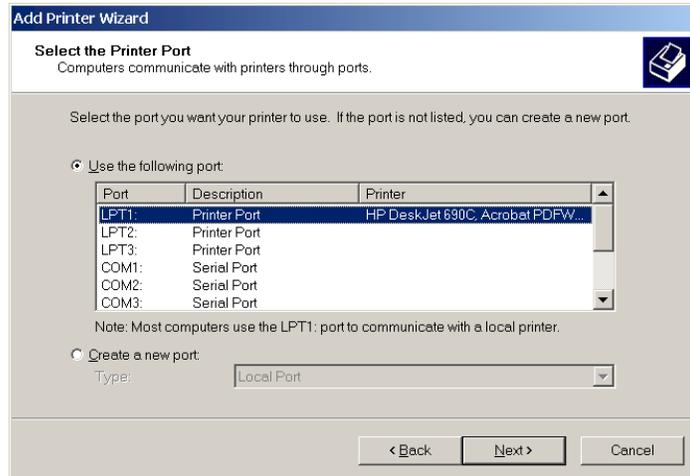

Figure 3, Printer Port
8. The third page of the “**ADD PRINTER WIZARD**” will be displayed as shown in Figure 3. Click on “**Use the following port**”. Next, scroll down through the list of available ports until “**USB001**” is highlighted. Then click on **<NEXT>** to continue